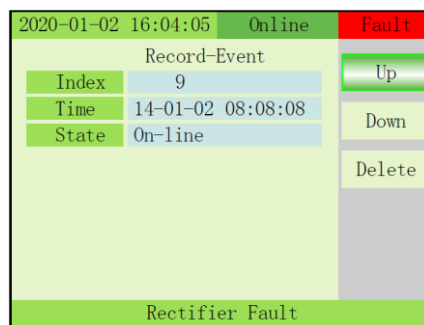

Fig. 3-22 **Record - Events menu**
15) RECORD-EVENT: Press ↻ to select Up or Down or Delete. Press OFF key to confirm (Fig. 3-22).